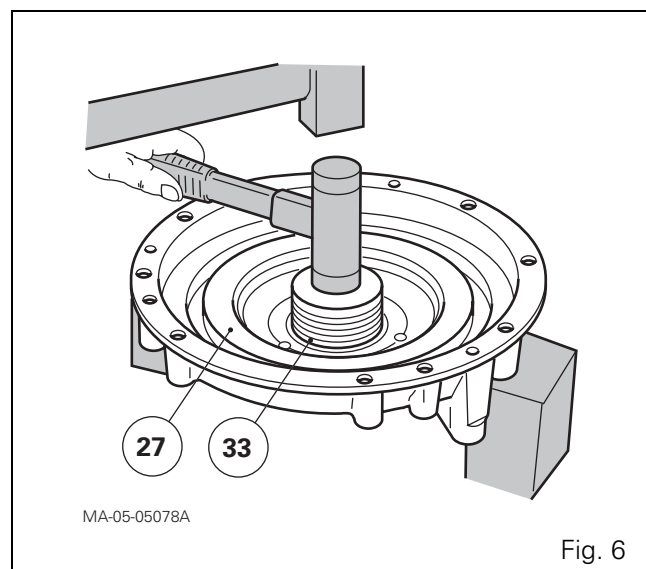

Fig. 6
14. Separate and remove the ring carrier (33) from the cover plate (27) (Fig. 6).
15. Remove the seals (22) and (23) and discard them.